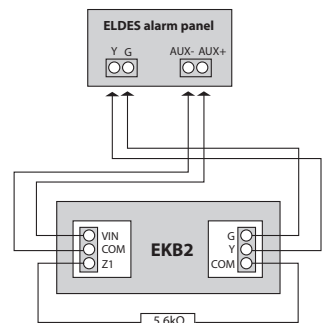

Fig. No. 6
5. Connect keyboard connectors to ELDES alarm panel respectively – Vin to AUX+, COM to AUX-, Y to Y, G to G. Keyboard Z1 zone connect to keyboard COM with 5,6k Ω resistor (see Fig. No. 6).